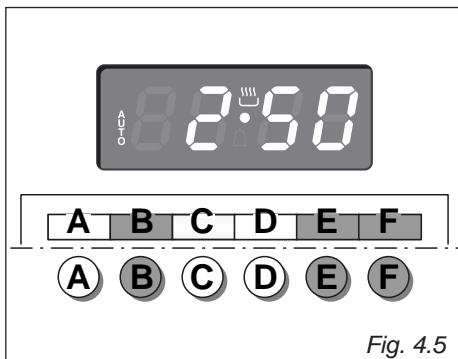

Fig. 4.5
1. Set the length of the cooking period by pushing the "B" button and the "F" button to increase or "E" to decrease if you have passed the desired time (fig. 4.5). The **AUTO** and the  symbol will illuminate.